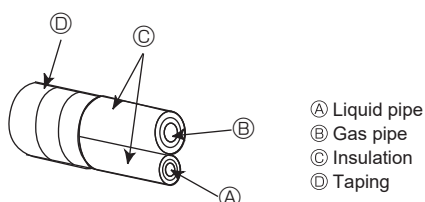
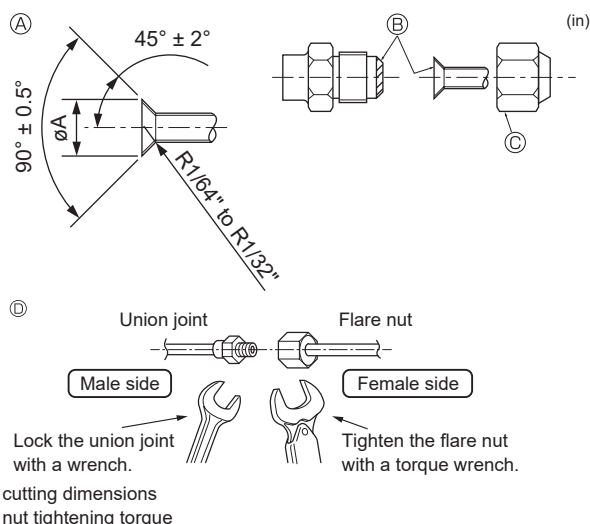

Fig. 4-6
Fig. 4-7
Ⓐ (Fig. 4-7)
4.3. Connecting pipes (Fig. 4-6) (Fig. 4-7)
- [Fig. 4-7]
- ① Pipes must be connected starting from the indoor unit.